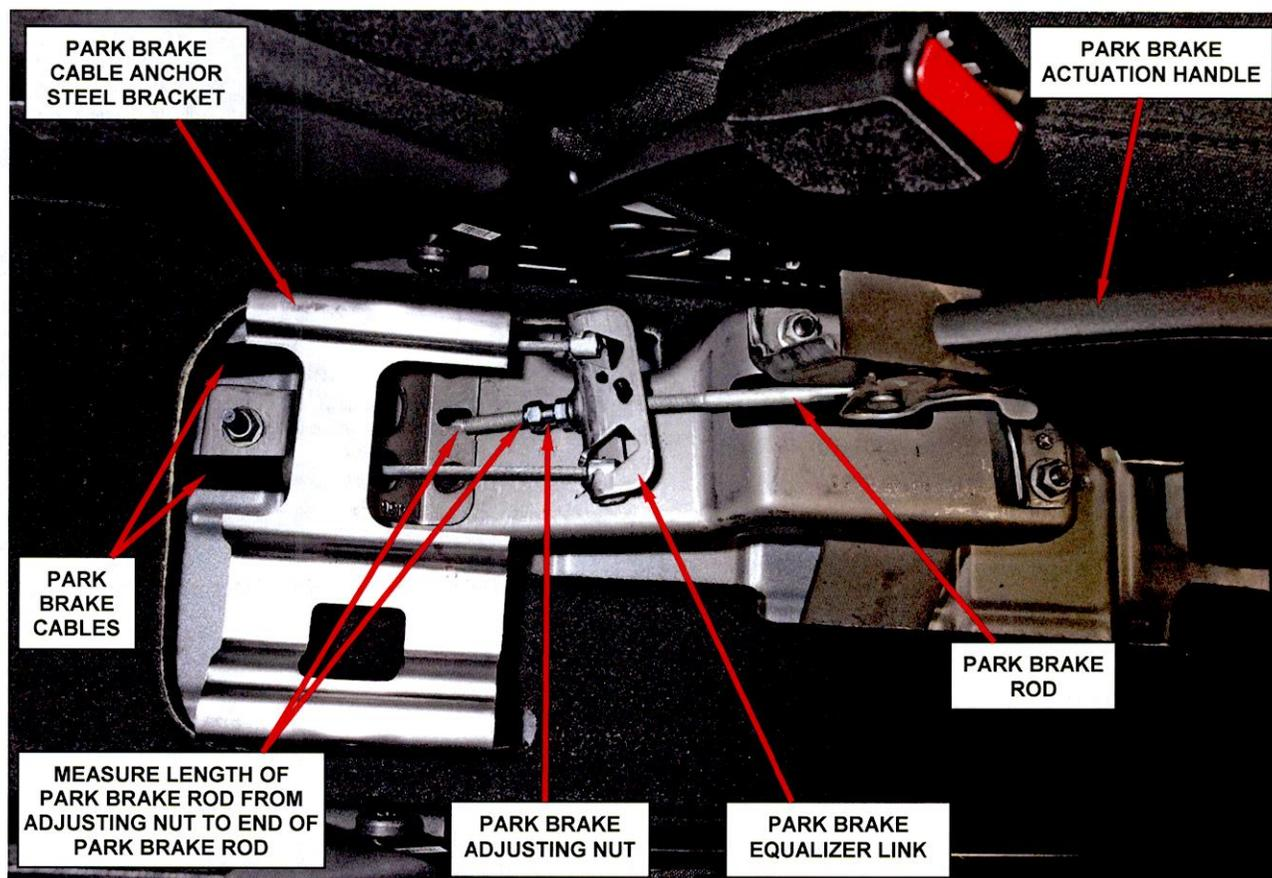

Figure 10 – Park Brake Components
3. Measure and record the distance the park brake rod sticks out past the park brake adjusting nut (Figure 10).
4. Loosen the park brake adjusting nut and disengage the park brake cable(s) from the park brake equalizer link (Figure 10).